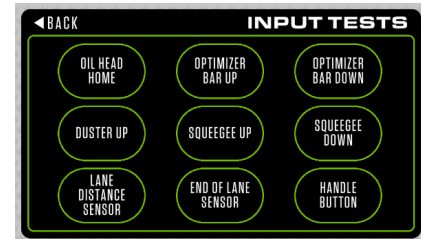

Figure 12 - Input Tests Screen
3.2.1.8 Input Tests Screen: (Figure 12)